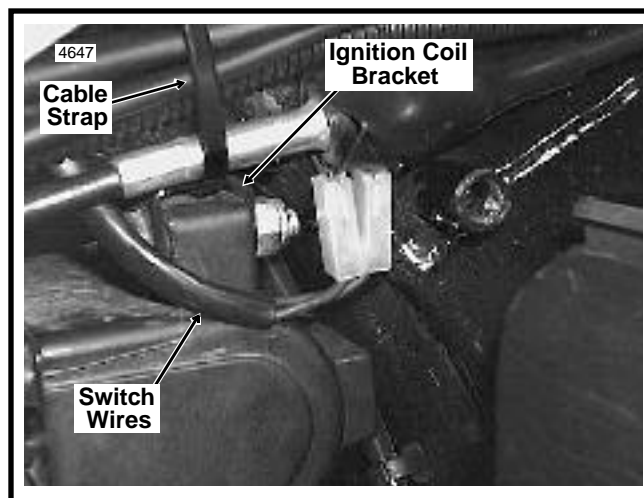

Figure 6. Leave Switch Wires Out of Cable Strap (Right Side View) - 1993 Models
14. On 1993 models, verify that the cruise control roll off switch wires are **not** captured within the cable strap. The switch wires must be routed outboard and to the rear of the ignition coil bracket (see Figure 6). The ignition module wires (left side of vehicle above ignition coil) must also be left outside the cable strap (see Figure 7).